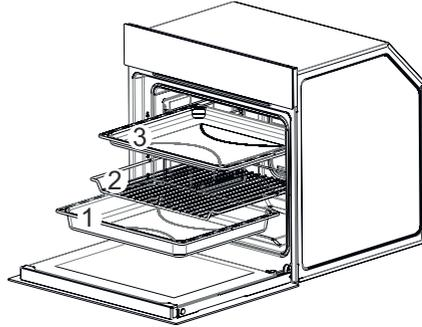

Fig. 23
- Remove the trays and the grill respectively (1-2-3 / Fig. 23).